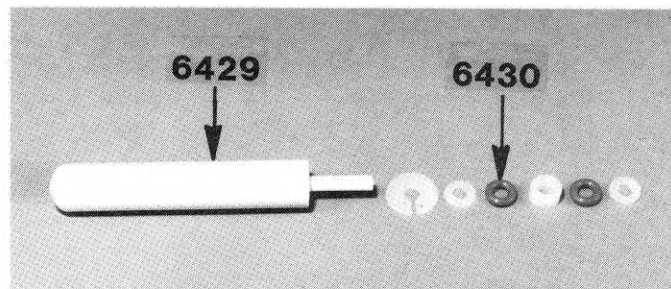

Fig. 92
□ **Figs. 92 & 92a** The #6429 assembly tool makes it quite easy to build shocks. The internal shock parts will be slipped onto the assembly tool in the following order. First, the large split washer, then the small washer, red O-ring, spacer, red O-ring, and small washer. This is exactly as the order shown in the photo.